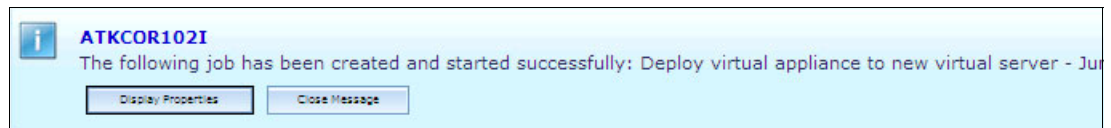

Figure 9-137 Display Properties window
14. Click **Display Properties** as shown in Figure 9-137.